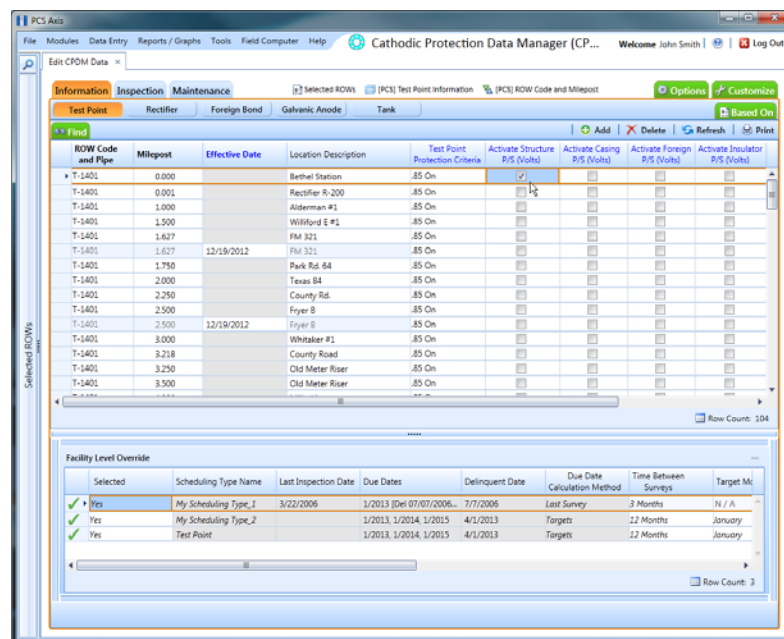

Figure 6-79. Information
- 3 Open the *Information* grid for a facility type. For example, click the **Information** tab  and then a facility type button, such as **Test Point**  (Figure 6-79, page 251).